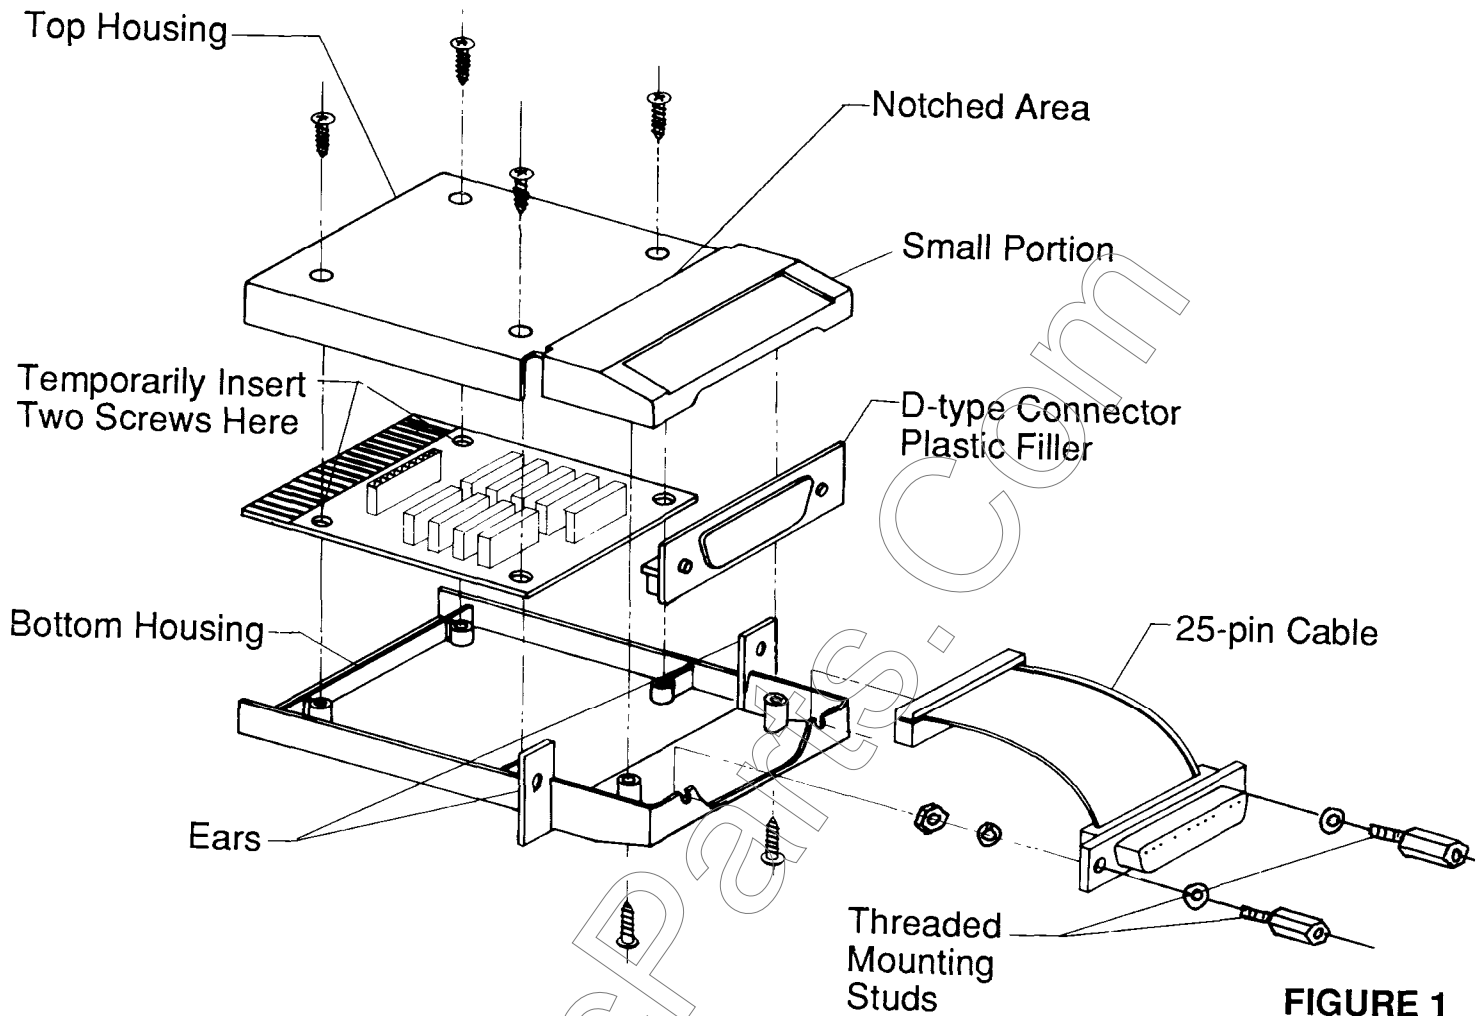

FIGURE 1
- 1) Both resistors and capacitors are located at the upper right corner of the main board near the 9-pin Output Expander connector. It is easily visible and **accessible without removing the keyboard**. With the EPS facing you, remove the four control panel screws with the hex wrench. Open the lid and locate the TL084 chip at location U61 as designated directly above the IC on the circuit board silk-screen. This is the 14-pin IC closest to the right side of the board. Figure 1 is a magnified view with each of the components to be replaced clearly labelled.
B. ADAPTING THE MEMORY EXPANDER TO ADD SCSI (SEE FIGURE 1)
C. INSTALLING MEMORY EXPANDER PC BOARD (SEE FIGURE 1)